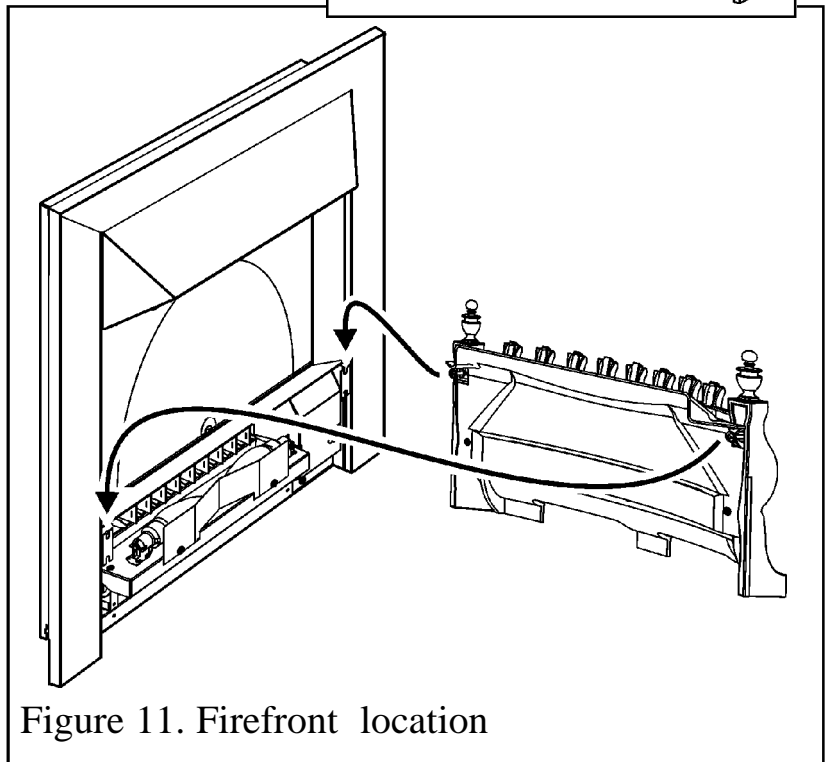

Figure 11. Firefront location
3. There are two hanging screws on the rear of the firefront. Locate these into the slots as in figure 11.